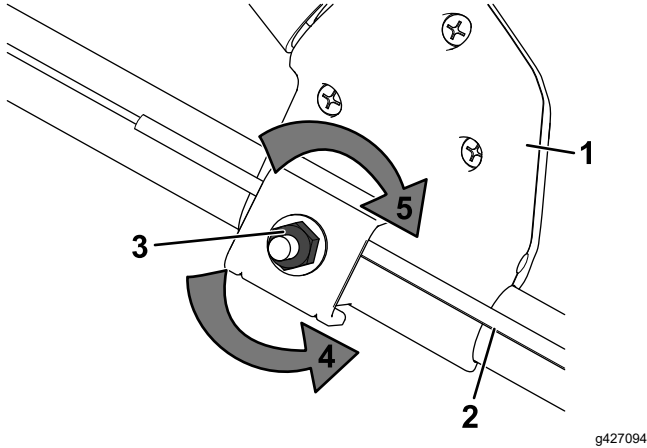

Figure 20
1. Turn the adjustment nut counterclockwise to loosen the cable adjustment (Figure 20).
2. Adjust the tension on the cable (Figure 20) by pulling it back or pushing it forward and holding that position.